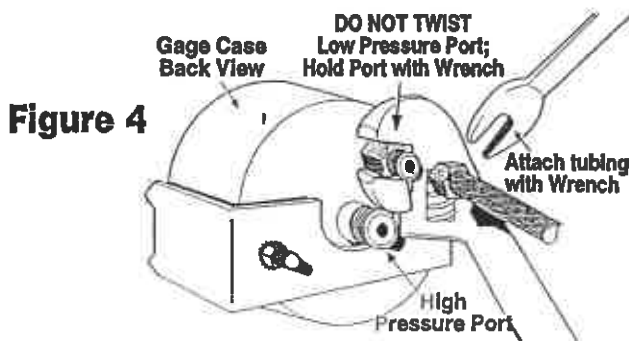

Figure 4
2. You **MUST** use a second wrench on the **Low Pressure** port when tightening tube fittings. (Figure 4). Notice that a wrench is used for holding the low pressure port while a second wrench will tighten the pressure tubing/hose fitting onto the port.